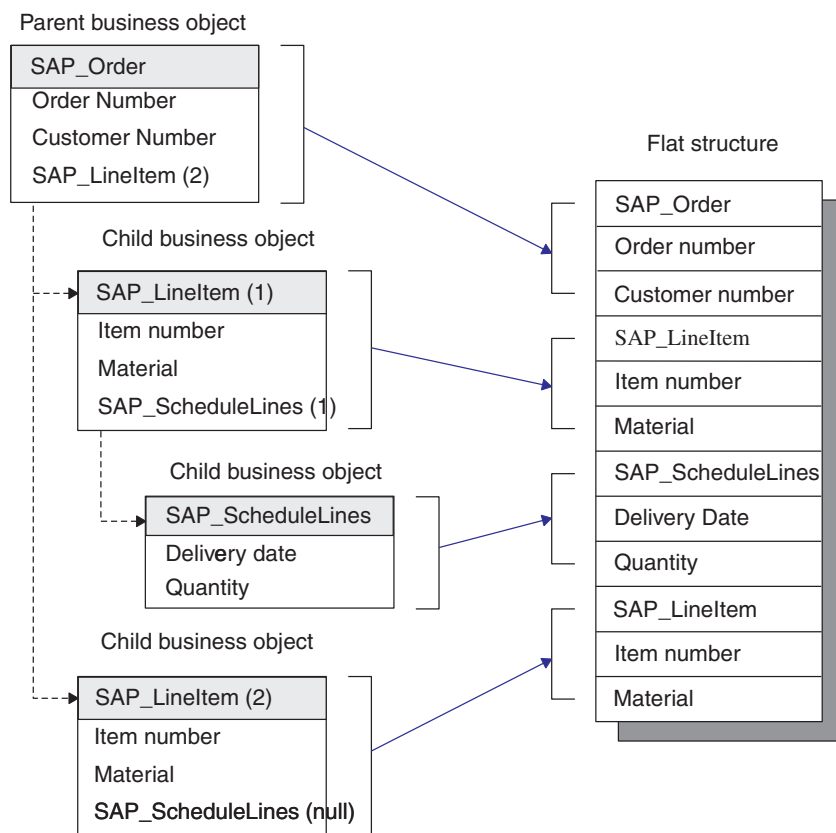

Figure 10. Conversion from a business object to a flat structure
Figure 10 illustrates the data conversion of a WebSphere business object for SAP into a flat data structure. The conversion of data always follows the rule of depth first and then breadth. In the example, the top-level parent business object, SAP\_Order, has two children, SAP\_LineItem (1) and SAP\_LineItem (2), which are considered peers. SAP\_LineItem (1) has one child business object, SAP\_ScheduleLines.